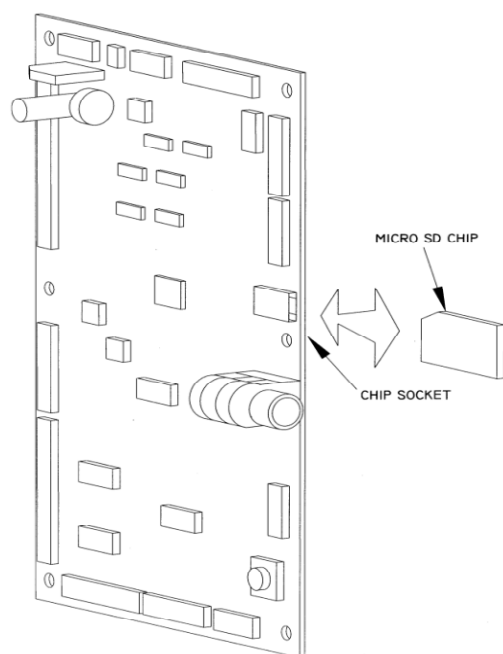

Figure 8.1 Loading Control Firmware
2. Locate the socket for the micro SD Card (Refer to Figure 8.1).